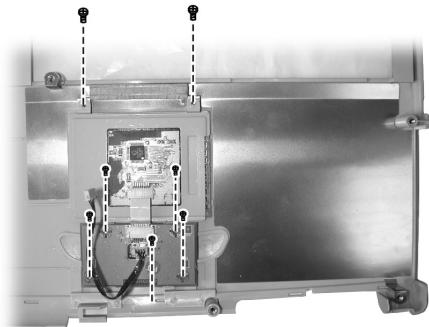

Figure 2-26
2. Remove the six screws to lift up the touchpad holder and touchpad panel. (Figure 2-26)